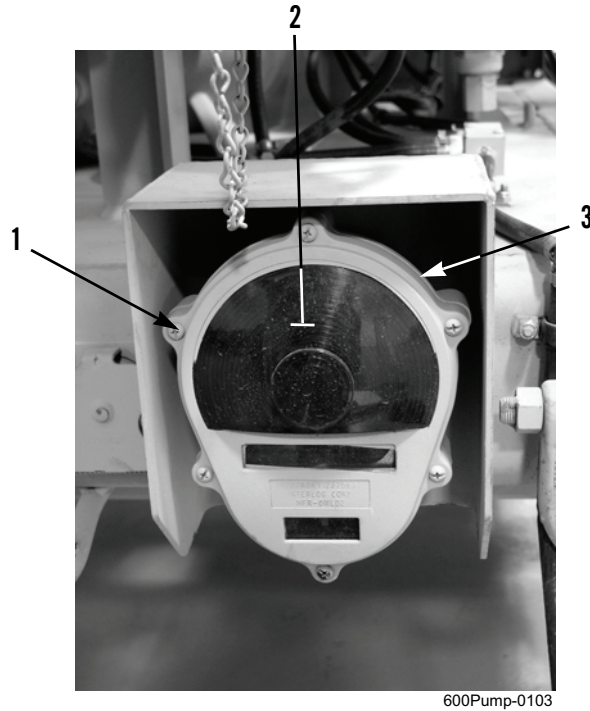

Figure 4. Taillight Lens.
8. Install taillight lens (Figure 4, Item 2) on taillight body (Figure 4, Item 3) and tighten six captive screws (Figure 4, Item 1).